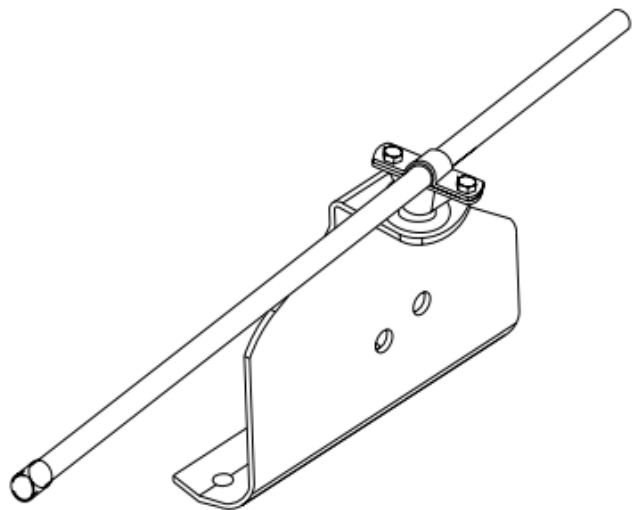

Figure 3.
- Place the cable into the cable fastener, securing it with two M6x12 screws and an M6 nut (Figure 3).
- Attach a safety cable end piece at both ends of the cable (Figure 3).